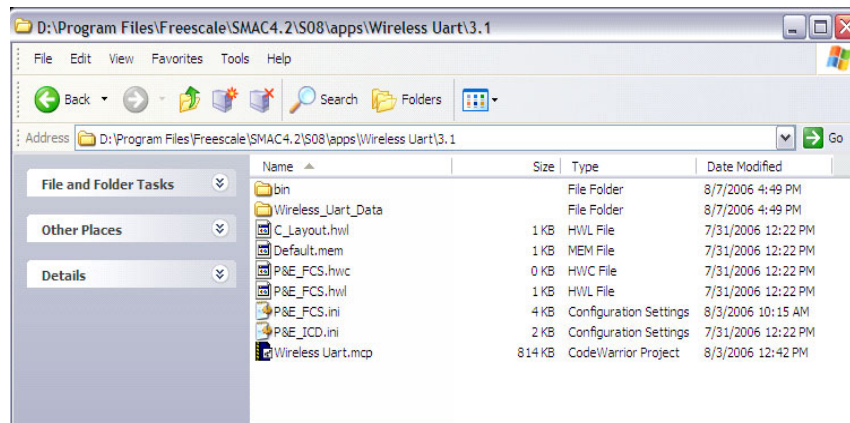

Figure 24. Wireless UART MCP File Location
2. Open the `wireless_uart.mcp` file as shown in Figure 24.